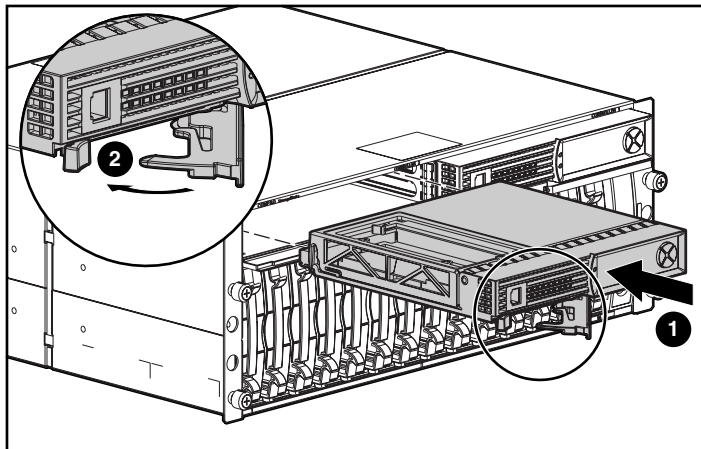

Figure 4: Installing the replacement controller
3. As illustrated in Figure 4, insert the replacement controller into the chassis **1**.